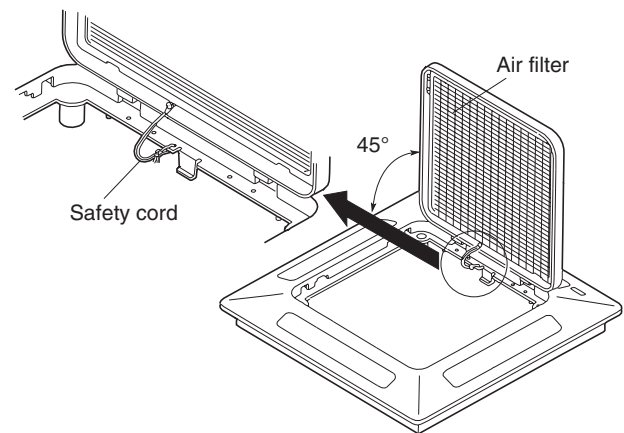

Fig. 1-59
- (c) With the air-intake grille open about 45°, remove the safety cord (hook on the grille side). (Fig. 1-59)